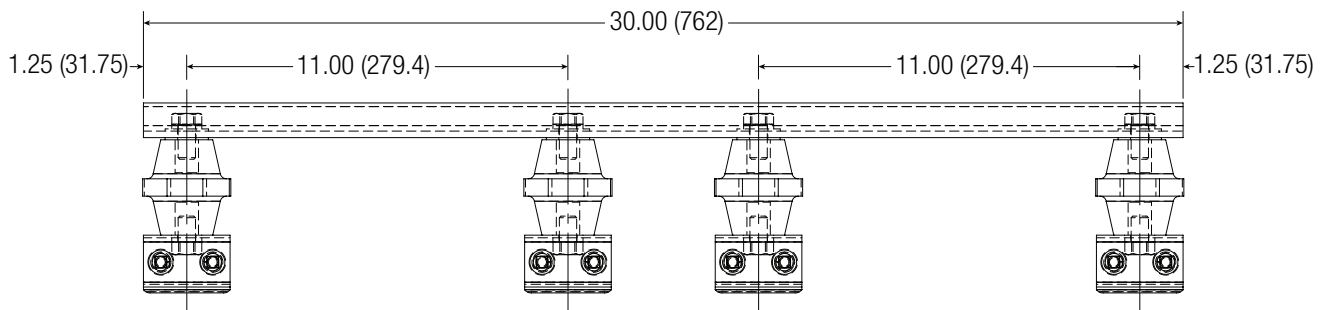

Figure 13-1
13.0.1 Strong back assemblies are used to protect and give extra support when needed for expansion gaps, isolation sections, and power interrupting sections. **See Figure 13-1.**